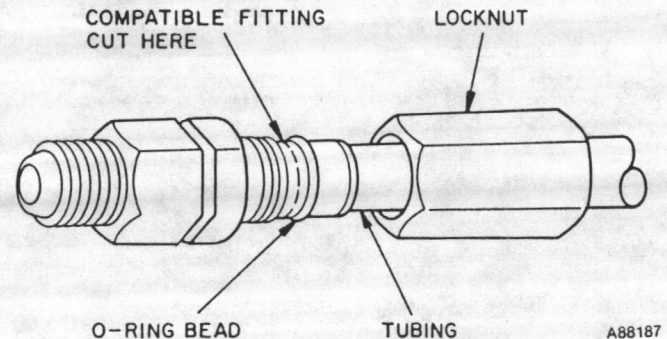

Fig. 14—Repair of Mechanical Connection
2. Back locknut off Compatible Fitting onto tube at indoor coil as in Fig. 14.